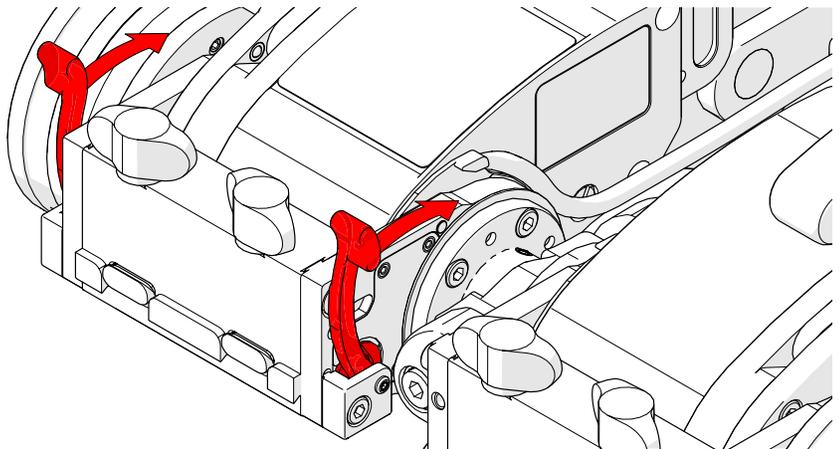

Fig. 16 - Lock swivel mount adjustment levers
4. Lock the swivel mount adjustment levers (Fig. 16).